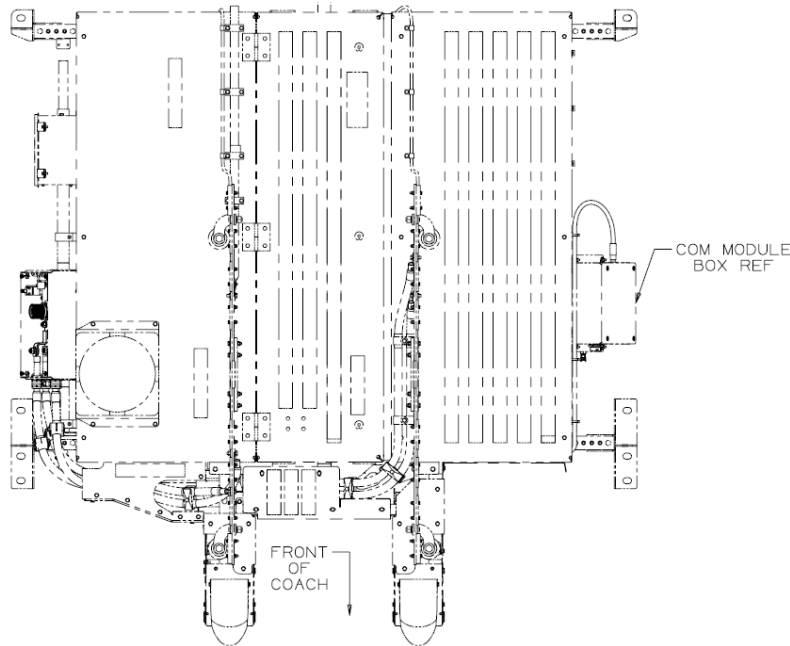

Figure 1: Location of ComBox
2. Locate and gain access to the ComBox which is underneath the street-side side-skirt. Refer to figure 1 below for location.